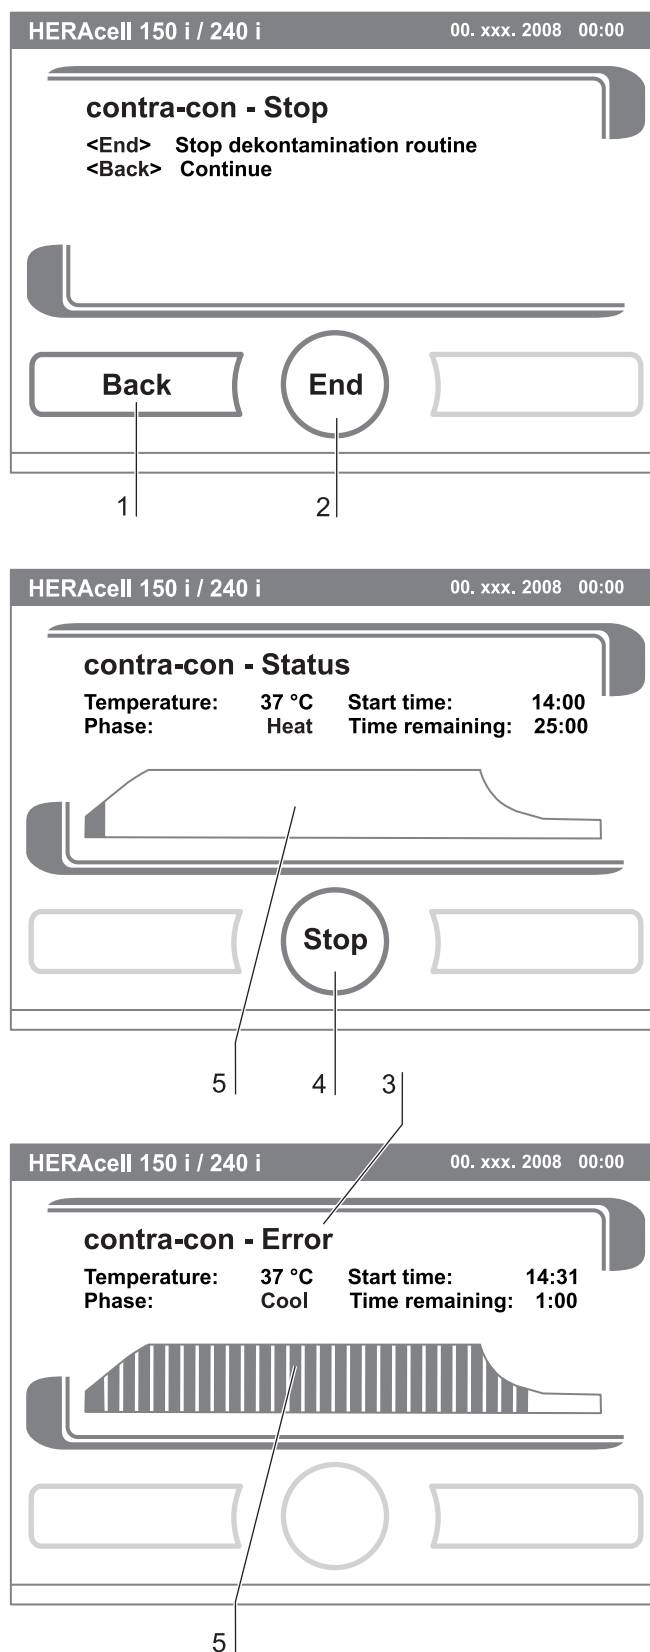

Fig. 66: Interrupting / cancelling contra-con
- ▶ **Fig. 66:** While the contra-con decontamination routine is running, the display shows the current status [5] and outputs the following information: